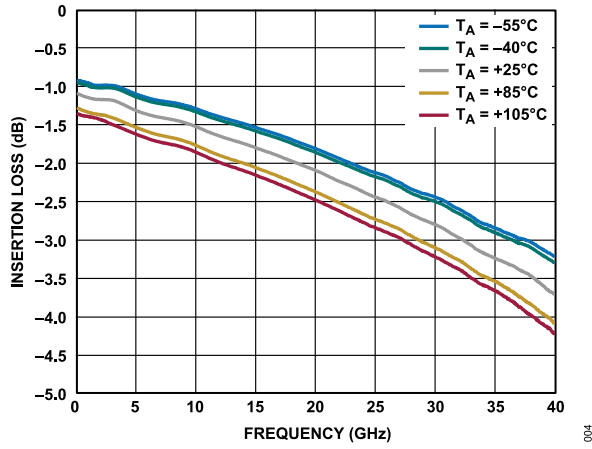

Figure 4. Insertion Loss for RFC to RFX On vs. Frequency
6. The ADRF5717-EVALZ is expected to have an insertion loss of 2.8 dB at 30 GHz. See the expected results in Figure 4.